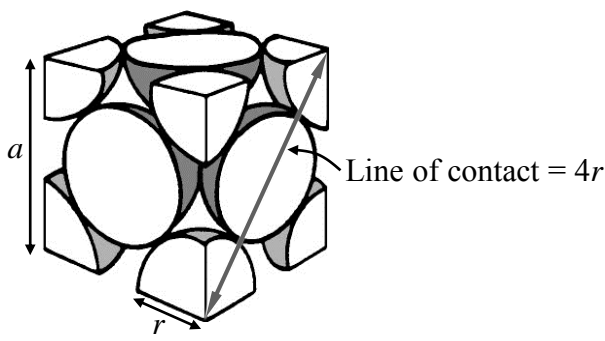

Figure Q5: FCC crystal structure.
- b) i) The atomic packing factor (APF) of a primitive cubic structure is 0.52. Show whether the APF of a face centred cubic (FCC) structure packs more or less efficiently, using the dimensions a and r defined in Figure Q5.